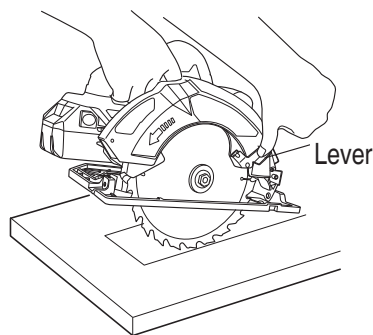

Fig. 33
- (1) Mark the desired cutting area clearly with lines all side. (See Fig. 33)
- (2) Set depth adjustment according to material to be cut.
- (3) Push the lever all the way back so the blade is exposed as shown in Fig. 33.